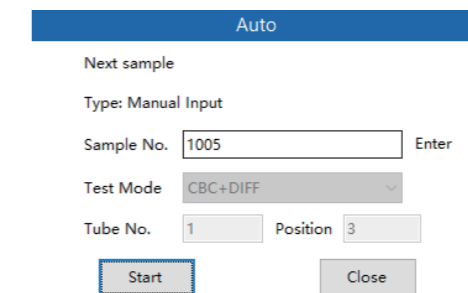

Figure 6.9-1
2. In ready status, set the first to be tested sample information area on the right side of the screen (as shown in Figure 6.9-1). Select "Automatic" for sampling method, and set the first to be tested sample's measuring mode and sample information.